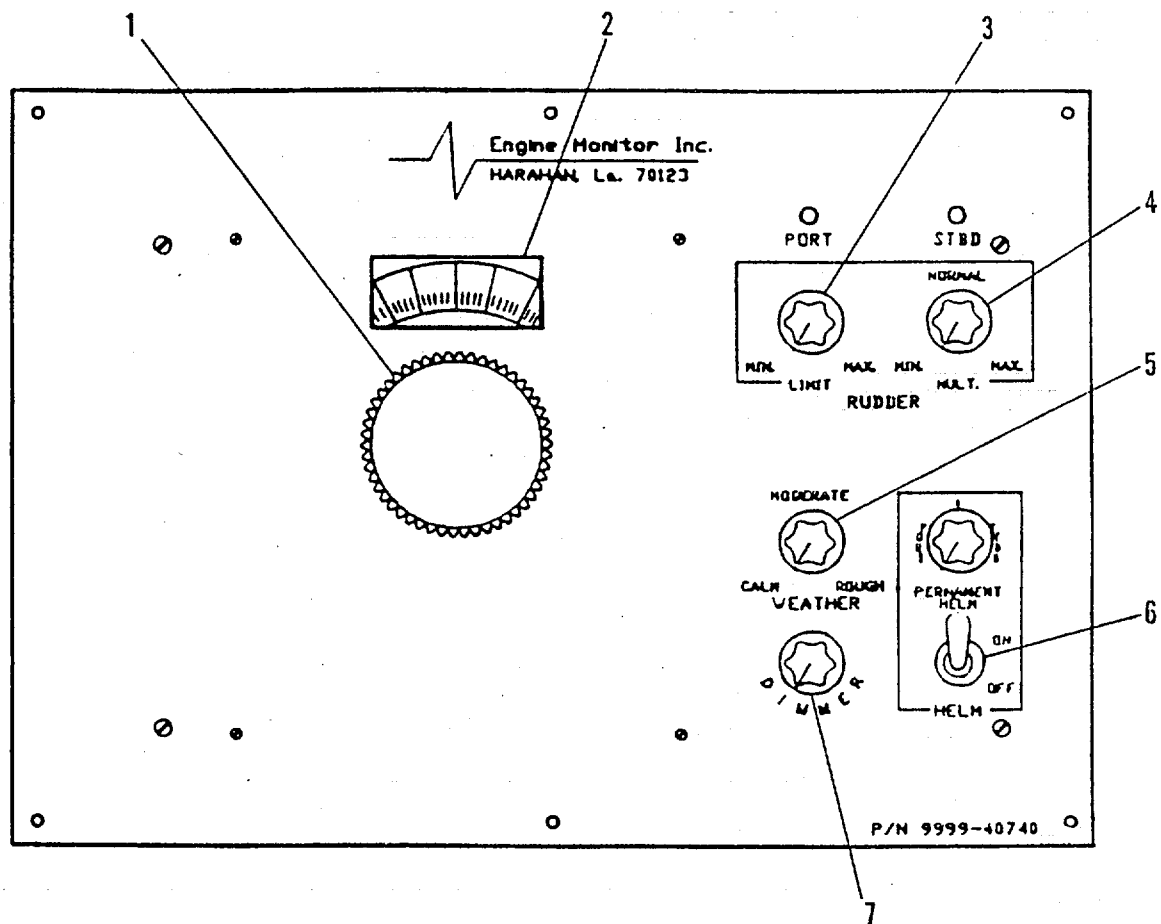

FIGURE 2-149.6. Steering Gear Autopilot Control
- (2) On the STEERING GEAR AUTO PILOT CONTROL (FIGURE 2-149.6) adjust the "DIMMER CONTROL" (7) for best reading level.
- (3) Change course by adjusting the "HEADING CHANGER KNOB" (1) until the desired course appears on the "BULB" (2).
- (4) Set the "WEATHER KNOB" (5). A maximum setting (counterclockwise) is best for good sea conditions and provides maximum course holding. The maximum setting (clockwise) is best for rough sea conditions.
- (5) Set the "RUDDER MULTIPLIER KNOB" (4). This adjustment determines how much the heading error signal is amplified before it is compared to the actual rudder position feedback signal.
- (6) Set the "RUDDER LIMIT KNOB" (3). This adjustment limits the maximum rudder travel that may be commanded by the auto pilot amplifier.
- (7) Adjust the "HELM TOGGLE SWITCH" (6). The "PERMANENT HELM" adjustment allows the auto pilot amplifier to bring the vessel to the exact desired heading in the presence of a steady wind or a steady running sea, which would tend to push the vessel continuously off course. The "PERMANENT HELM TOGGLE SWITCH" (6) should remain in the "OFF" position during calm winds and seas.
- (8) As the craft comes to new heading, verify that the "BULB" (2) indicates new heading.